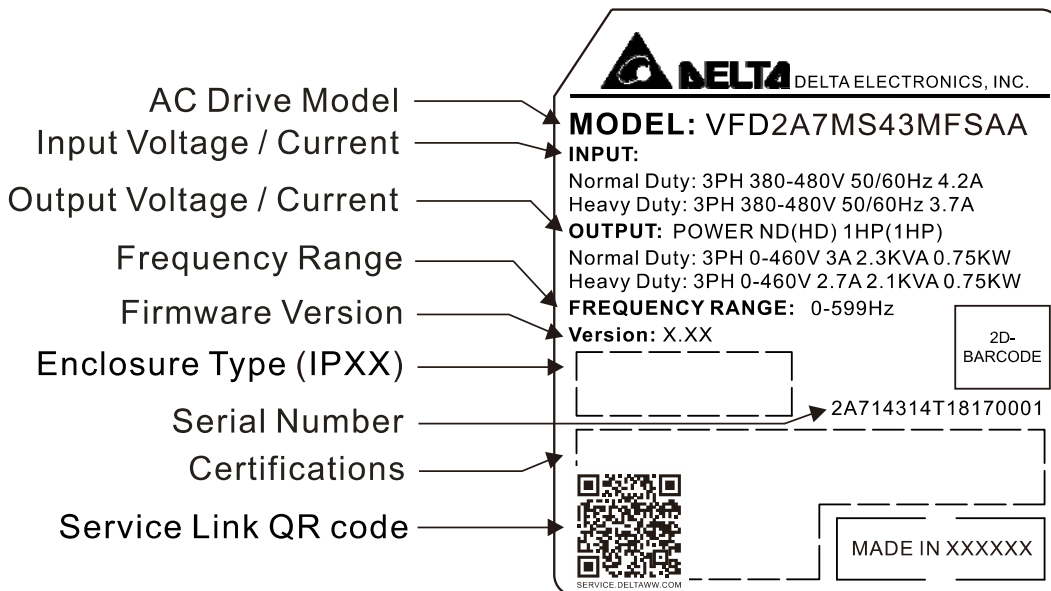

Figure 1-1
1. Locate the QR code sticker (as shown in Figure 1-1).